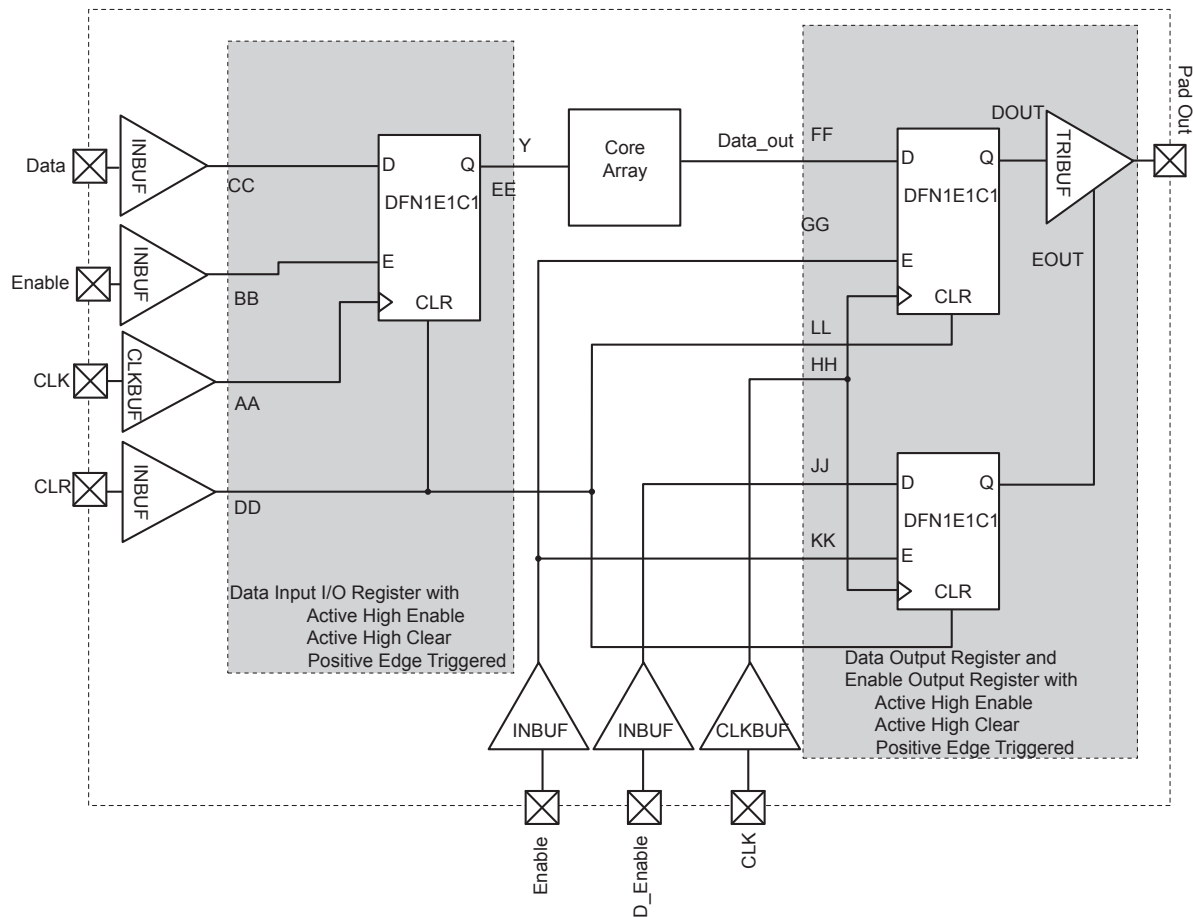

**Figure 2-138 • Timing Model of the Registered I/O Buffers with Synchronous Enable and Asynchronous Clear**
**Note:** \*See Figure 2-138 on page 2-214 for more information.